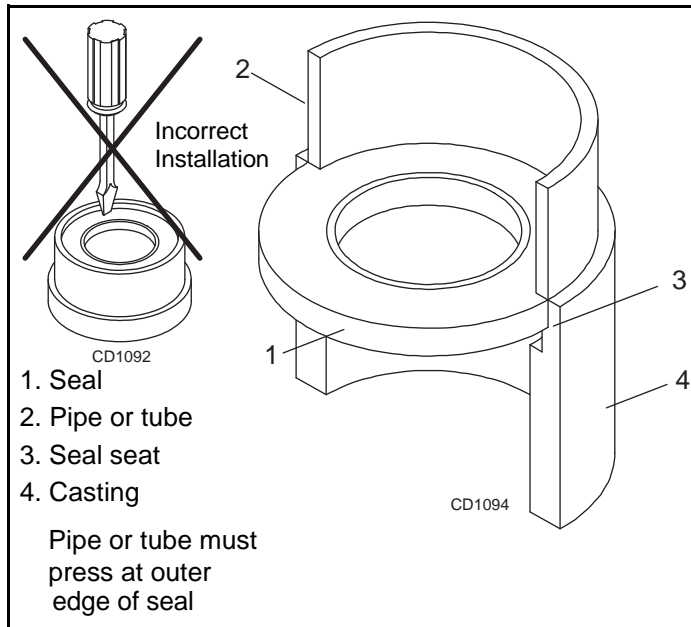

Figure 22. Seal Installation
1. Clean area in housing where seal outer diameter (OD) seats. Apply a thin coat of Permatex.
4. Place seal squarely on housing, spring-loaded lip toward housing. Select a piece of pipe or tubing with an OD that will sit on the outside edge of the seal but will clear the housing. Tubing with an OD that is too small will bow seal cage and ruin seal. See Figure 22.